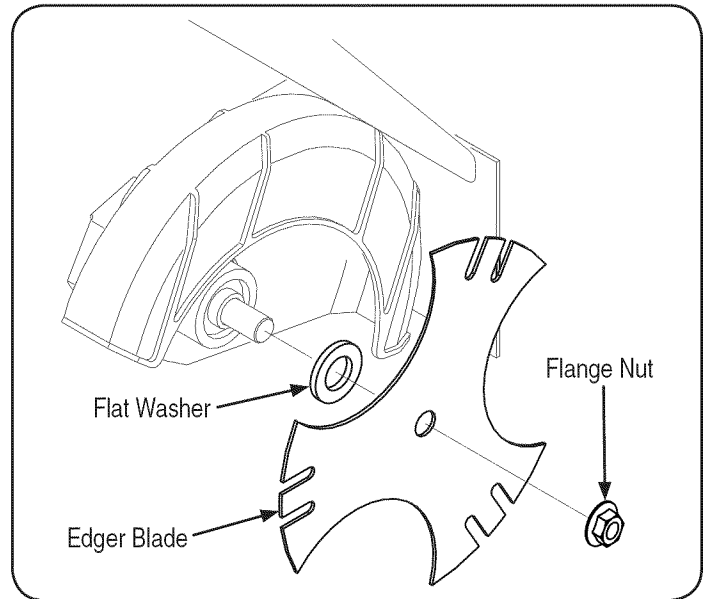

Figure 16
1. Use two wrenches (one wrench to prevent the hex bolt head from spinning and the other to remove the flange nut) to remove the edger blade. Refer to Figure 16.